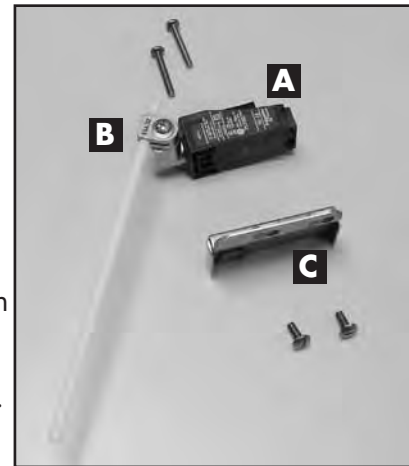

Fig. 4 -
1. Refer to Fig. 4, *TLS and Mounting Bracket*, below.